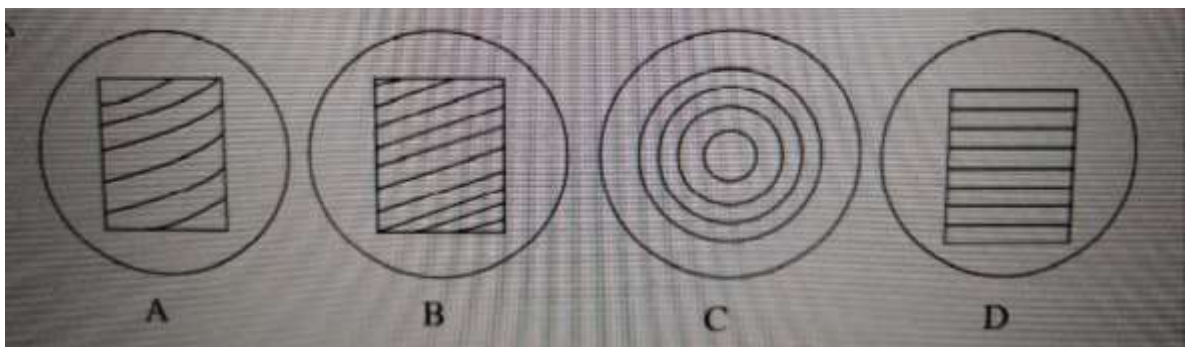

Fig. 1 Fringe patterns viewed through the optical flat
6. The fringe patterns shown in Fig. 1 were observed for four different specimens when viewed through an optical flat. Give your assessment about the nature of surface conditions for each of the cases. 2